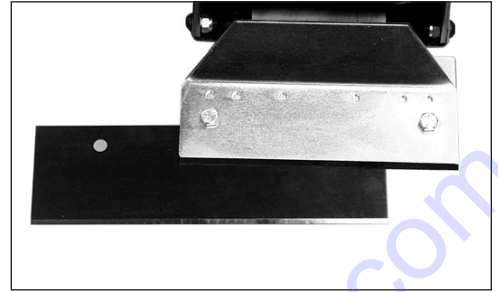

FIG. 7
- Blades can be offset in the cutting head for easier access to toe kicks or for removal along the wall (Figure 7).